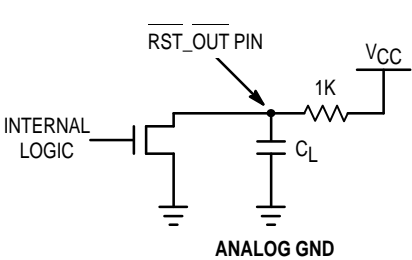

Figure 4. RST_OUT Test Circuit
- The $\overline{RST_OUT}$ pin is an open drain N-Channel output. Therefore an external pull-up resistor must be provided to pull up the $\overline{RST_OUT}$ pin when it goes into the high impedance state (after the MC88920 is phase-locked to the reference input with $\overline{RST_IN}$ held high or 1024 'Q' cycles after the $\overline{RST_IN}$ pin goes high when the part is locked). In the t_{PLZ} and t_{PZL} specifications, a 1K Ω resistor is used as a pull-up as shown in Figure 4.